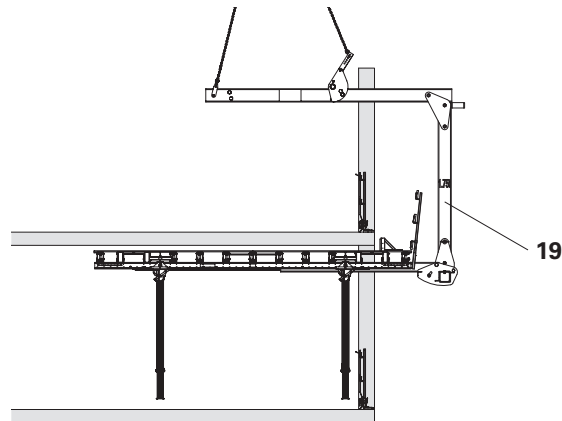

Fig. A10.04
2. Lower the slab table approx. 20 cm and lift with the Table Lifting Fork (19). (Fig. A10.04)